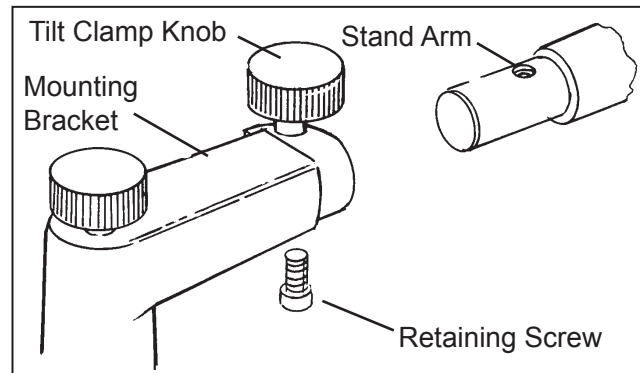

Figure SU-1 Attaching Phoroceptor to Stand
1. Place the Phoroceptor on the instrument stand arm by sliding the Mounting Bracket over the end of the arm until the threaded hole of the stand arm lines up with the slotted hole in the bottom of the Mounting Bracket. Refer to Figure SU-1.
2. A Retaining Screw has been provided to prevent the Phoroceptor from falling off the stand. Insert the screw up through the slotted hole and thread it into the stand arm. Tighten the screw firmly in place. Refer to Figure SU-1.
3. Tighten the Tilt Clamp Knob and the Phoroceptor will be held firmly in the desired position. Refer to Figure SU-1.